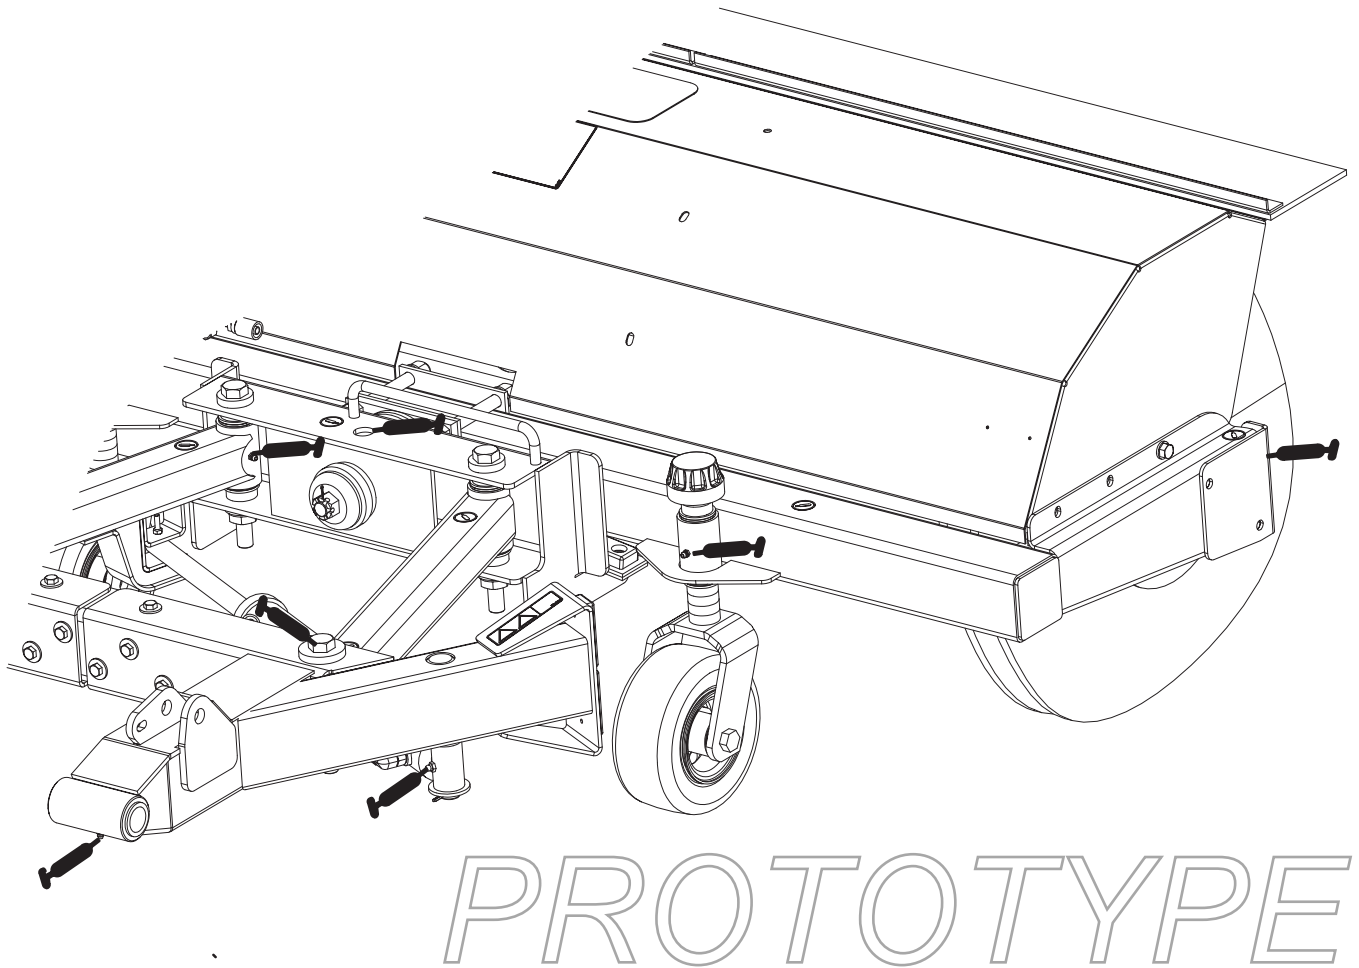

Figure 22
The rotary brush has (12) fittings that must be lubricated (Fig. 22).
- Castor shaft bushings (2)
- Axle shaft bearings (2)
- Right and left lift arms (2)
- Right and left brush arms (4)
- Pivot pin (1)
- Cylinder pivot (1)